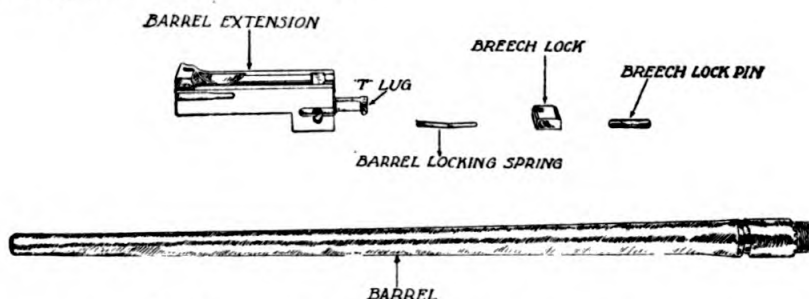

FIGURE 126.—Barrel extension group.
**137. Detailed disassembly of barrel extension**—(fig. 126).—*a*. Insert the rim of a cartridge under the front edge of the barrel-locking spring and pull it out forward.